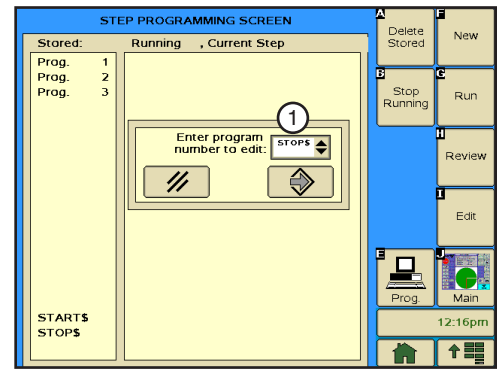

Figure 169-1 1. New Program Number Field
1. Push **Prog.** and **Step Prog.** to view the Step Program screen. Refer to Figure 169-1.